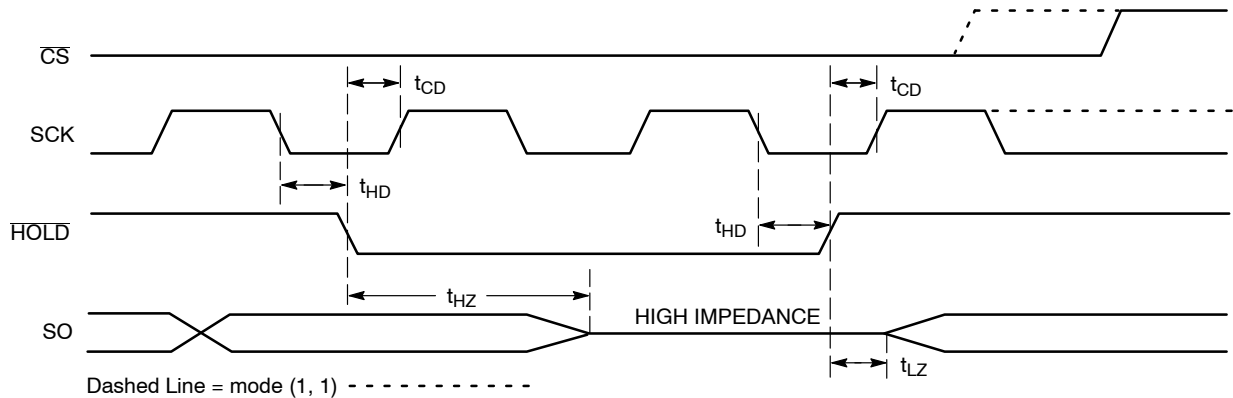

Figure 11. $\overline{\text{HOLD}}$ Timing
The $\overline{\text{HOLD}}$ input can be used to pause communication between host and CAT25256. To pause, $\overline{\text{HOLD}}$ must be taken low while SCK is low (Figure 11). During the hold condition the device must remain selected ($\overline{\text{CS}}$ low). During the pause, the data output pin (SO) is tri-stated (high impedance) and SI transitions are ignored. To resume communication, $\overline{\text{HOLD}}$ must be taken high while SCK is low.